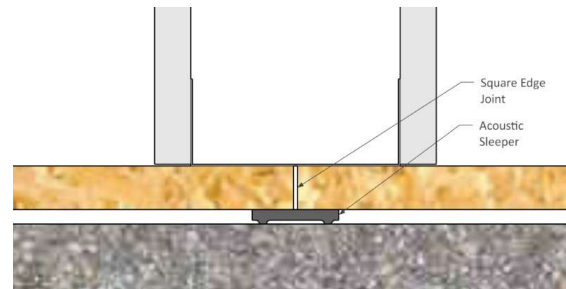

Figure 8: Optional Subfloor Panel Joint under Partition
- Fig. 8: Optional subfloor joint under demising partitions in concrete construction for additional structure-borne sound isolation.